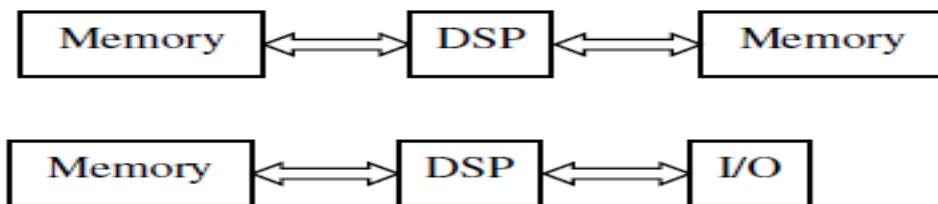

Fig. 7.11: Data transfer with intervention by DSP
- DSP can be involved in such transfer, as shown in fig. 7.11. Since amount of data is large, it will engage DSP in data transfer task for a long time.